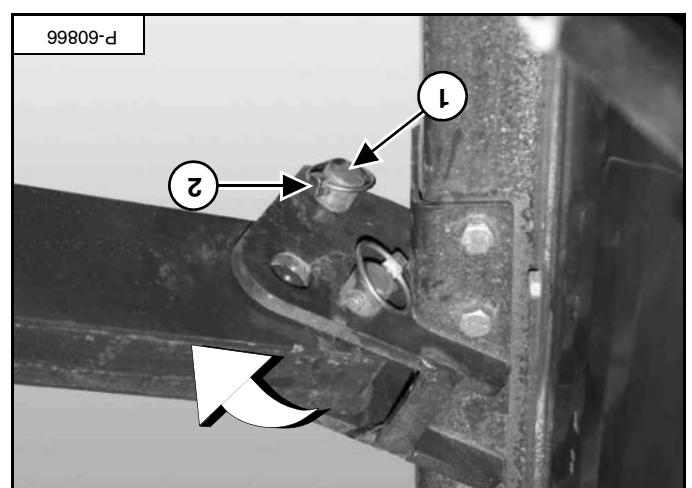

Figure 70
Lower the gutter brush and install the transport pin [item 1] and retaining pin [item 2] [Figure 70].